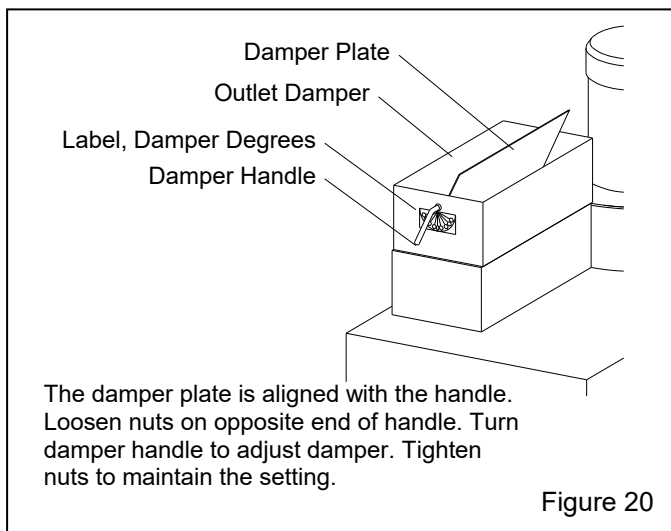

Figure 20
**5.4.2** Adjust static pressure by opening or closing the outlet damper located above the dust collector, refer to Figure 20. If the damper is not opened far enough, the reclaimer will not remove fines, resulting in dusty media, poor visibility; or will not convey media, causing media build-up in the hose between the cabinet hopper and reclaimer. If the damper is opened too far, it may cause carry-over (usable media carried into the dust collector) and result in excessive media consumption. Run the media through several cycles and inspect media in the reclaimer and dust in the dust containers. Open the damper only as far as necessary to obtain a balance of maximum dust removal without good-media carry over.